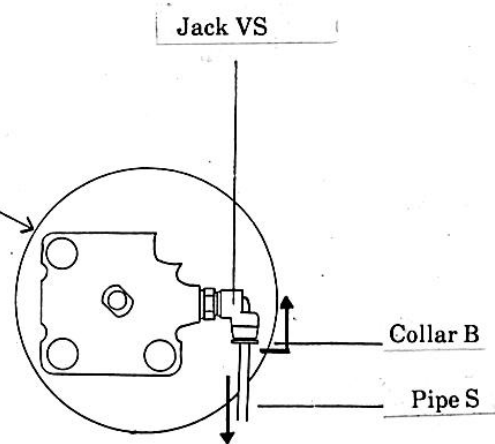
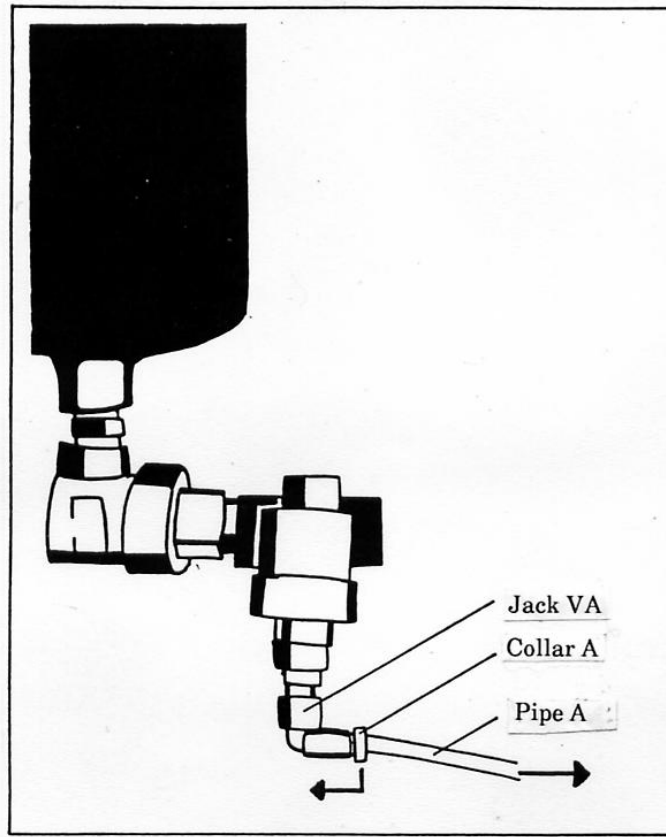

FIGURE 15
FIGURE 16
- 5 - Disconnect the small supply pipe A from the stapling jack item VA (Fig16)
- 6 - Disconnect the pipe S from the clamping jack item VS (Fig 15)
- 7 - Connect the pipe S from the clamping jack VS (Fig 15) to the stapling jack VA (Fig 16)
Unit H must therefore be removed (FIGURE 16), cleaned, lubricated and reassembled.